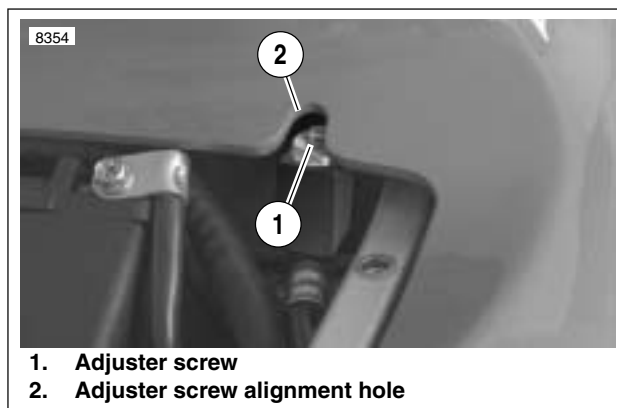

Figure 4-127. Adjuster Screw Alignment
See Figure 4-127. To ensure proper reservoir mounting, temporarily place upper body work onto tail section and adjust reservoir placement so adjuster screw (1) aligns with alignment hole (2).